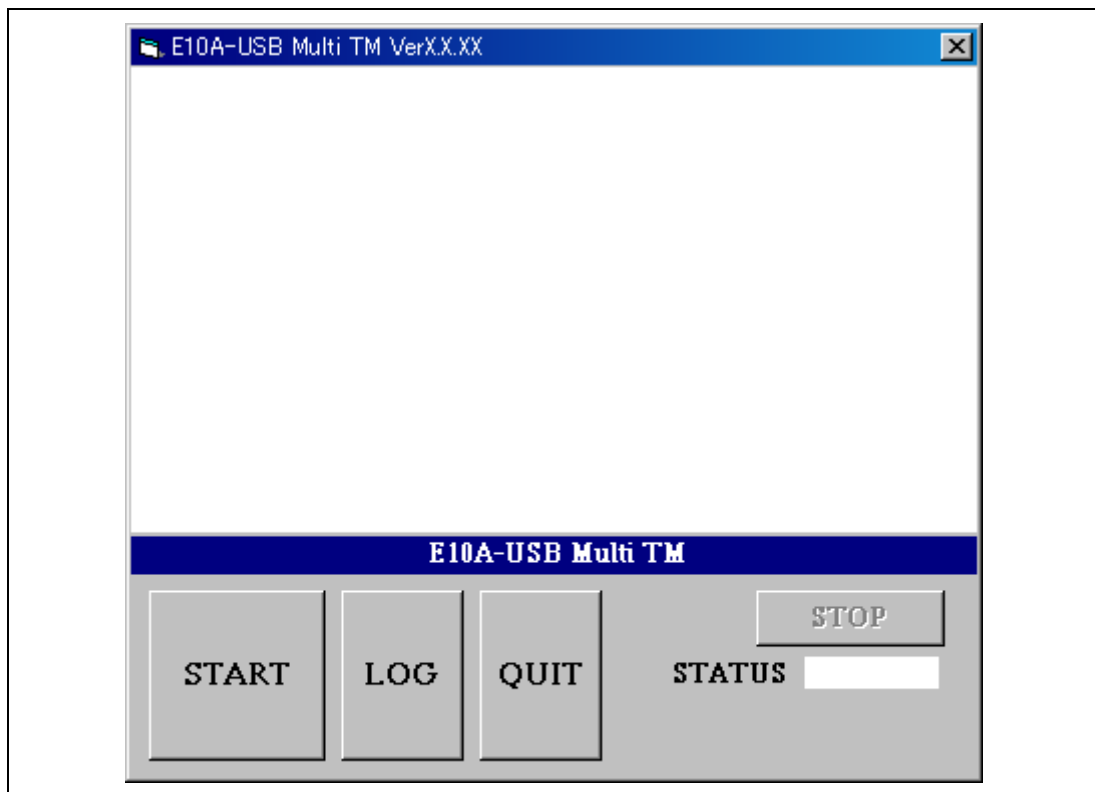

Figure 7 Starting Up the Test Program
5. After starting up the E10A-USB Multi TM, the screen will be displayed as shown in figure 7.